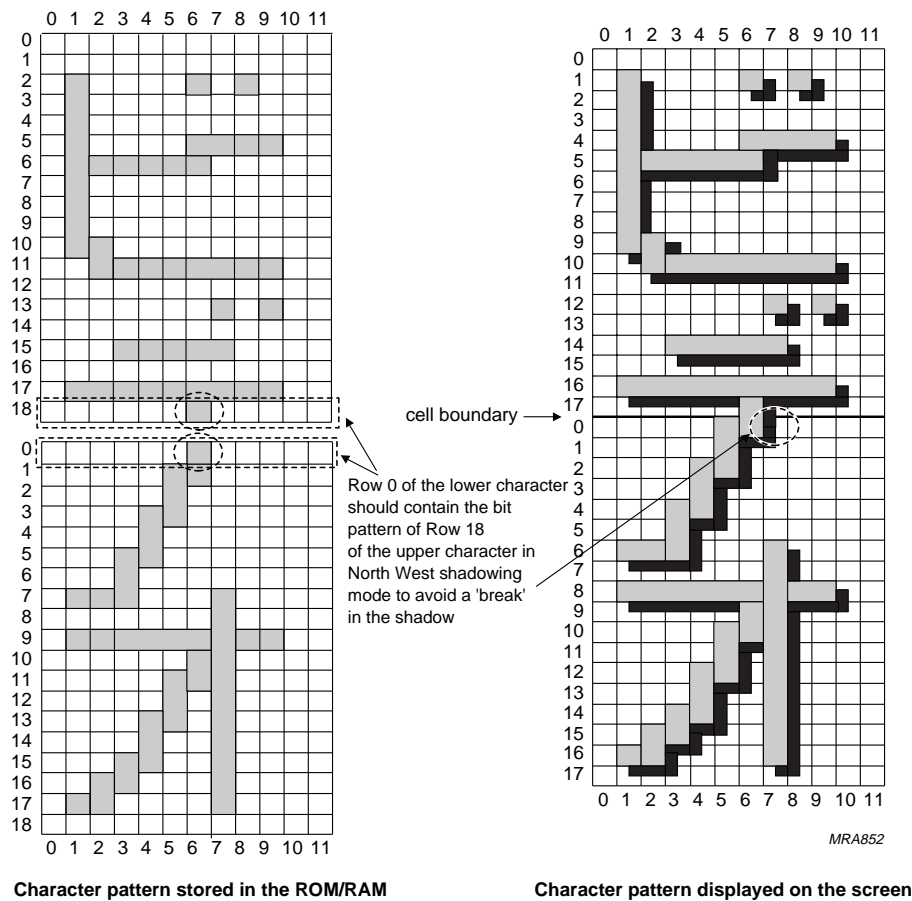

Fig.38 Combination of two characters in a vertical direction - with no gap.
- If the North-West shadowing mode is selected then when combining two character cells in a vertical direction Row 0 must contain the same bit pattern as held in Row 18 of the character directly above it. This is shown in Fig.38.